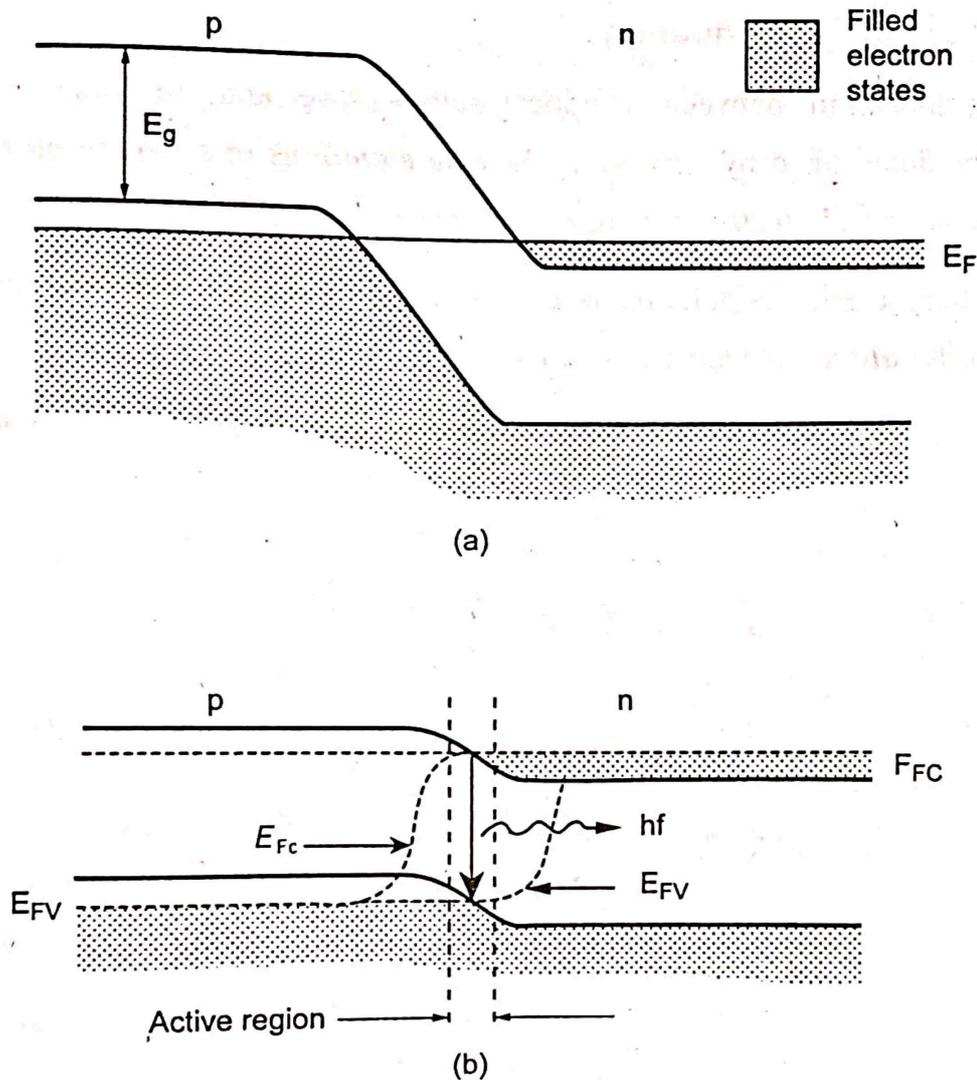

**Fig 5.18** The filled electron states for an intrinsic direct band gap semiconductor at absolute zero. (a) In equilibrium; (b) With higher carrier injection
- ♣ Carrier population inversion is achieved in an intrinsic (*undoped*) semiconductor by the injection of electrons into the conduction band of the material which is illustrated in Figure 5.18 where the electron energy and the corresponding filled states are shown.
- ♣ Figure 5.18 (a) shows the situation at absolute zero when the conduction band contains *no electrons*. Electrons injected into the material fill the lower energy states in the conduction band up to the injection energy or the quasi – Fermi level for electrons.
- ♣ A charge neutrality is conserved within the material and an equal density of holes created in the top of the valence band by the absence of electrons, as shown in Fig 5.18 (b).